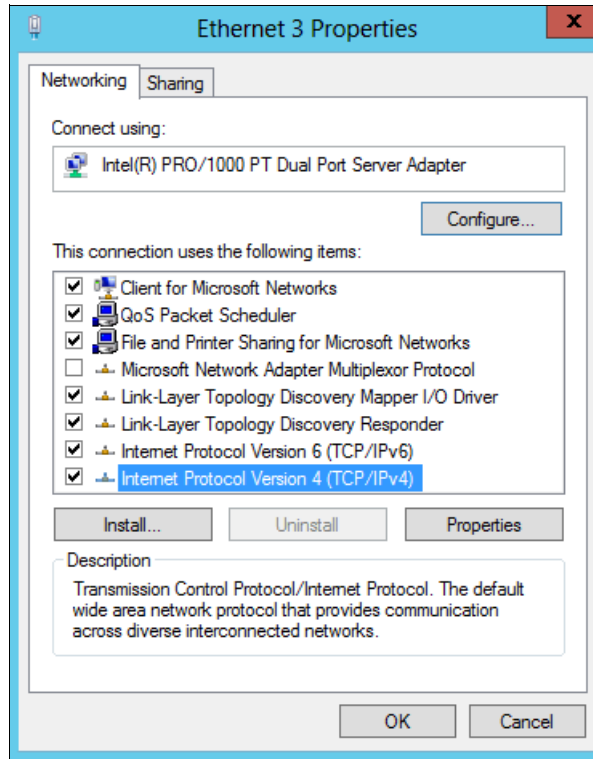

Figure 4-9 Ethernet Properties
3. To configure the IP address, click **Properties**. The window shown in Figure 4-9 should open.